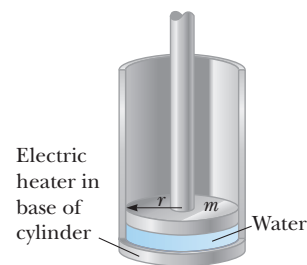

Figure P20.81
**81.** Consider the piston-cylinder apparatus shown in Figure P20.81. The bottom of the cylinder contains 2.00 kg of water at just under  $100.0^\circ\text{C}$ . The cylinder has a radius of  $r = 7.50\text{ cm}$ . The piston of mass  $m = 3.00\text{ kg}$  sits on the surface of the water. An electric heater in the cylinder base transfers energy into the water at a rate of 100 W. Assume the cylinder is much taller than shown in the figure, so we don't need to be concerned about the piston reaching the top of the cylinder. (a) Once the water begins boiling, how fast is the piston rising? Model the steam as an ideal gas. (b) After the water has completely turned to steam and the heater continues to transfer energy to the steam at the same rate, how fast is the piston rising?